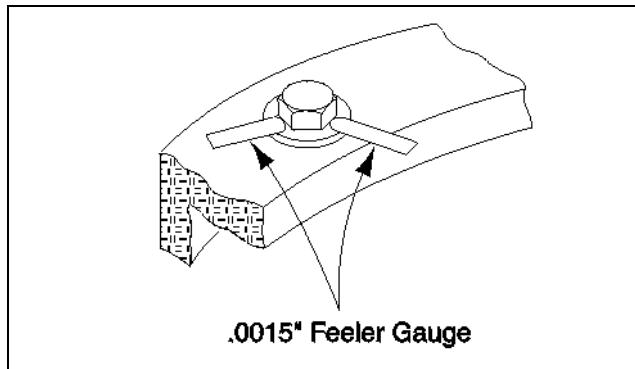

Figure 3-35. Swing Bolt Feeler Gauge Check
- b. At the positions indicated on Figure 3-35, try to insert a 0.0015 feeler gauge between the bolt and hardened washer at the arrow indicated position.
- d. At the position indicated on Figure 3-35., try and insert the 0.0015" feeler gauge between the bolt head and hardened washer at the arrow indicated position.